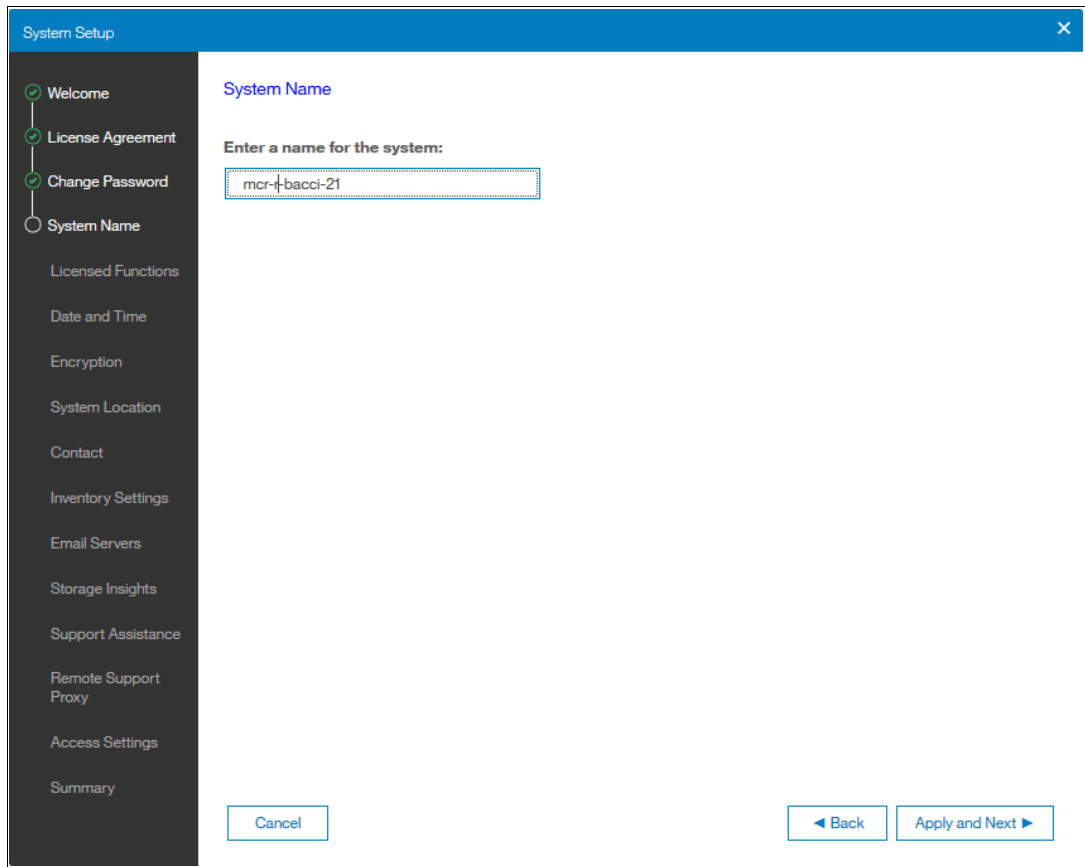

Figure 2-27 Setup wizard: System Name
6. In the System Name window, enter the system name and click **Apply and Next**, as shown in Figure 2-27.